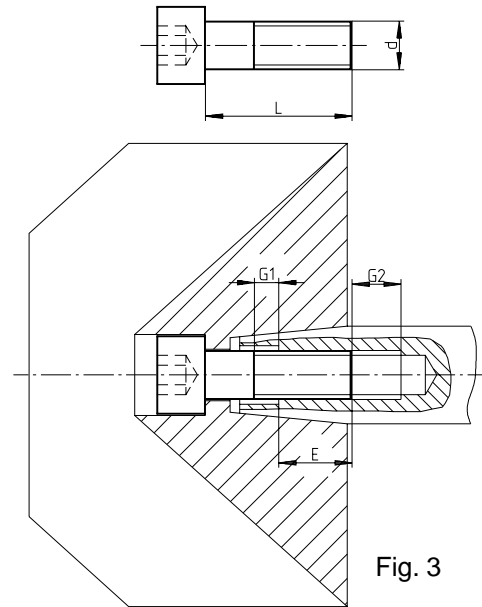

Fig. 3
**For final assembly:** Place the hydraulic (already built together) with the suction flange on a flat and hard underground. Lower the drive unit - impeller assembly into casing (400) by a suitable hoist.
**For wear adjustment:** Loosen all fasteners (419) between drive unit and volute casing. Remove shims.
**General:** To **estimate correct shim (411) thickness**, lower drive unit into casing just until impeller cannot be turned. Measure gap between drive unit and volute casing at several places and take average. Now add 0.5 mm to the average gap measured; this will be approximate shim thickness required to obtain correct clearance "C" (Fig. 3).